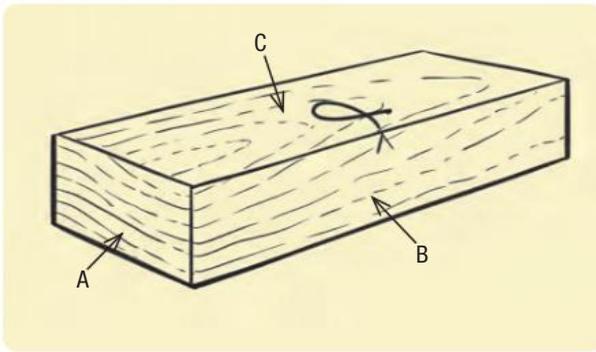

Figure 3.8 Dressed timber with the two finishing marks
Rough-sawn timber is timber that is sawn to approximately the size you need, but not yet planed to make it smooth. It can be planed to the correct size later. It is usually slightly thicker and wider than the required size. It is rough to touch and not easily finished with paint or similar materials. Most timber needs to be planed or dressed to size before use, so that the surfaces are made true (flat) and square and are without twists. This process is called preparing timber. Figures 3.6 and 3.7 show a piece of rough-sawn timber and a piece of dressed timber. On a timber that is completely dressed, you will see two marks. Figure 3.8 shows these marks.
- 2 Study Figure 3.8. Which side of the timber is the face side of the timber and which is the **face edge** side?